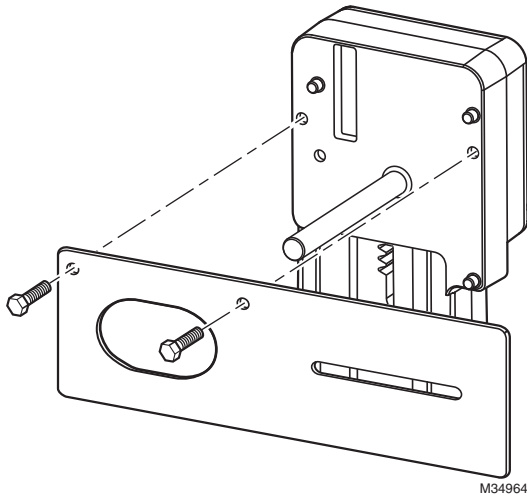

Fig. 2. Installing actuator mounting plate to Q5020.
5. Using the included 3/4 in. long bolts, attach the actuator mounting plate to the housing so that it protrudes to either the left or the right side of the linkage, whichever is the more convenient for installation. See Fig. 2.